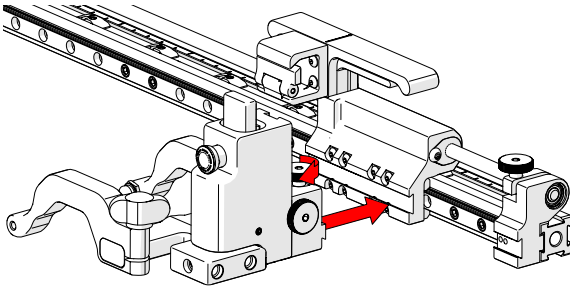

Fig. 46 - Mount probe holder to carrier
1. Loosen the probe holder adjustment knob (Fig. 46) and mount the heavy duty vertical probe holder's dovetail jaw to the carrier.